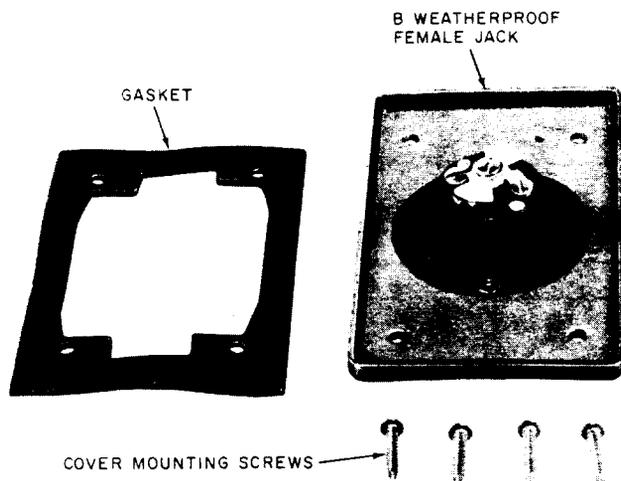

Fig. 11—B Weatherproof Female Jack
(g) Jack, Female, Weatherproof, B (for use at trailer service pad or dock area, Fig. 11 and 13).
2.09 The B weatherproof female jack (Fig. 11 and 13) mounts in the B outlet box located at the trailer service pad or on the dock at the marina. It receives the male plug of the B weatherproof cord. The jack has a spring-loaded hinged cover to make it weatherproof when not in use. Three screw terminals stamped R, T, and GR on the rear of the jack provide connection to ring, tip, and ground.
- One B weatherproof female jack (mounted on post at protector, Fig. 11)
- One B weatherproof female jack (mounted on post on dock or pier to accept other end of cord, Fig. 11 and 13)